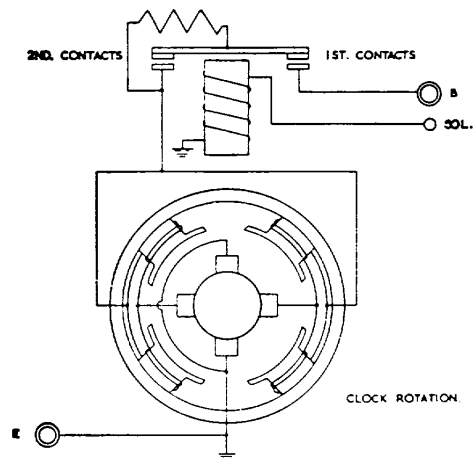

Fig. Q. 11.
The first pair of contacts having closed, battery current flows through the resistance (9) and armature field windings (24). Since the resistance allows a **limited** current only, to pass through the field windings, the armature rotates very slowly. The electrical circuit is shown schematically in Fig. Q.11. This completes the first stage of the operation.